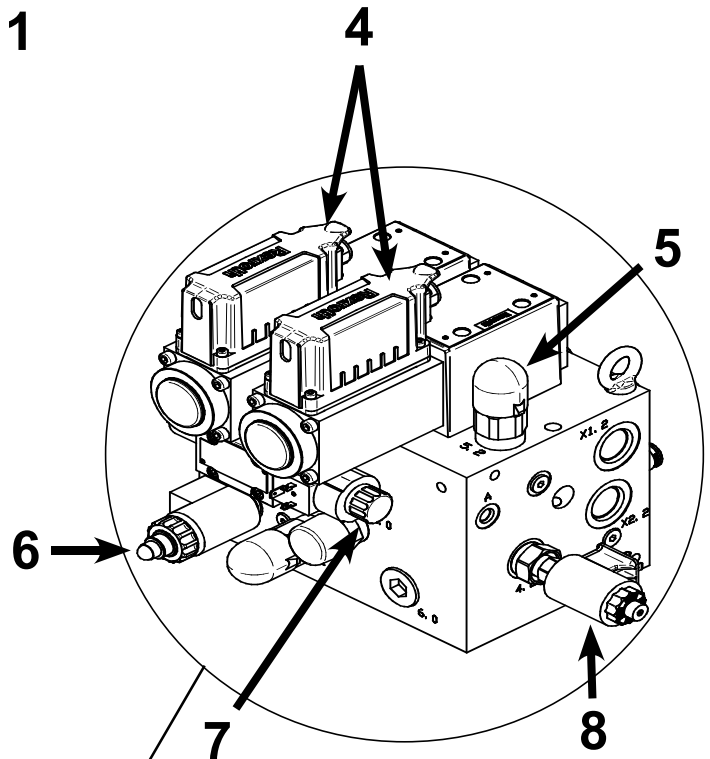

FIGURE 9-8 Hydraulic Control Manifold (located on top of the hydraulic oil reservoir)
7. The counterbalance pressure is checked while running the ram down. The proper pressure can be found in the table above. Note: If very heavy upper dies are installed, contact CINCINNATI Technical Service at (513) 367-7100 for information on how to set the counterbalance pressure. To adjust the pressure, loosen the locknut and turn the adjusting the screw on the counterbalance valve. Figure 9-8. Turn the screw clockwise to increase the pressure and counterclockwise to decrease the pressure. Tighten the locknut and remove the pressure gage.